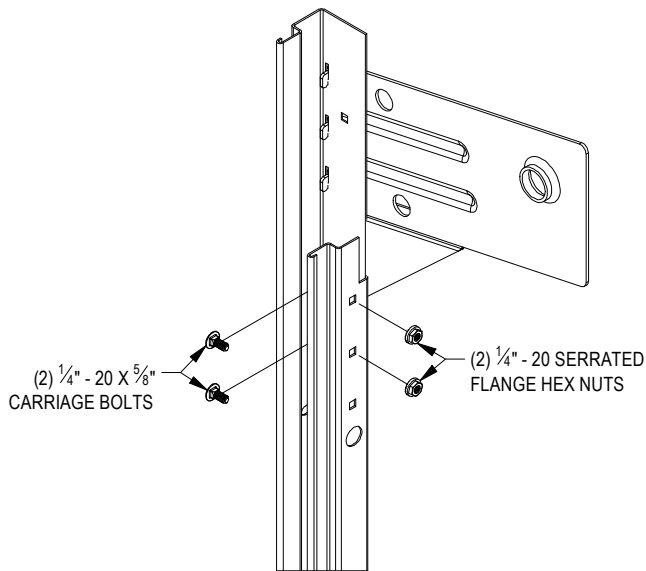

FIGURE 14:
- Attach two (2) $\frac{1}{4}$ " - 20 X $\frac{5}{8}$ " Carriage Bolts and $\frac{1}{4}$ " - 20 Serrated Flange Hex Nuts per guide and hand tighten $\frac{1}{4}$ " - 20 Serrated Flange Hex Nuts when in place. **See Figure 14.**